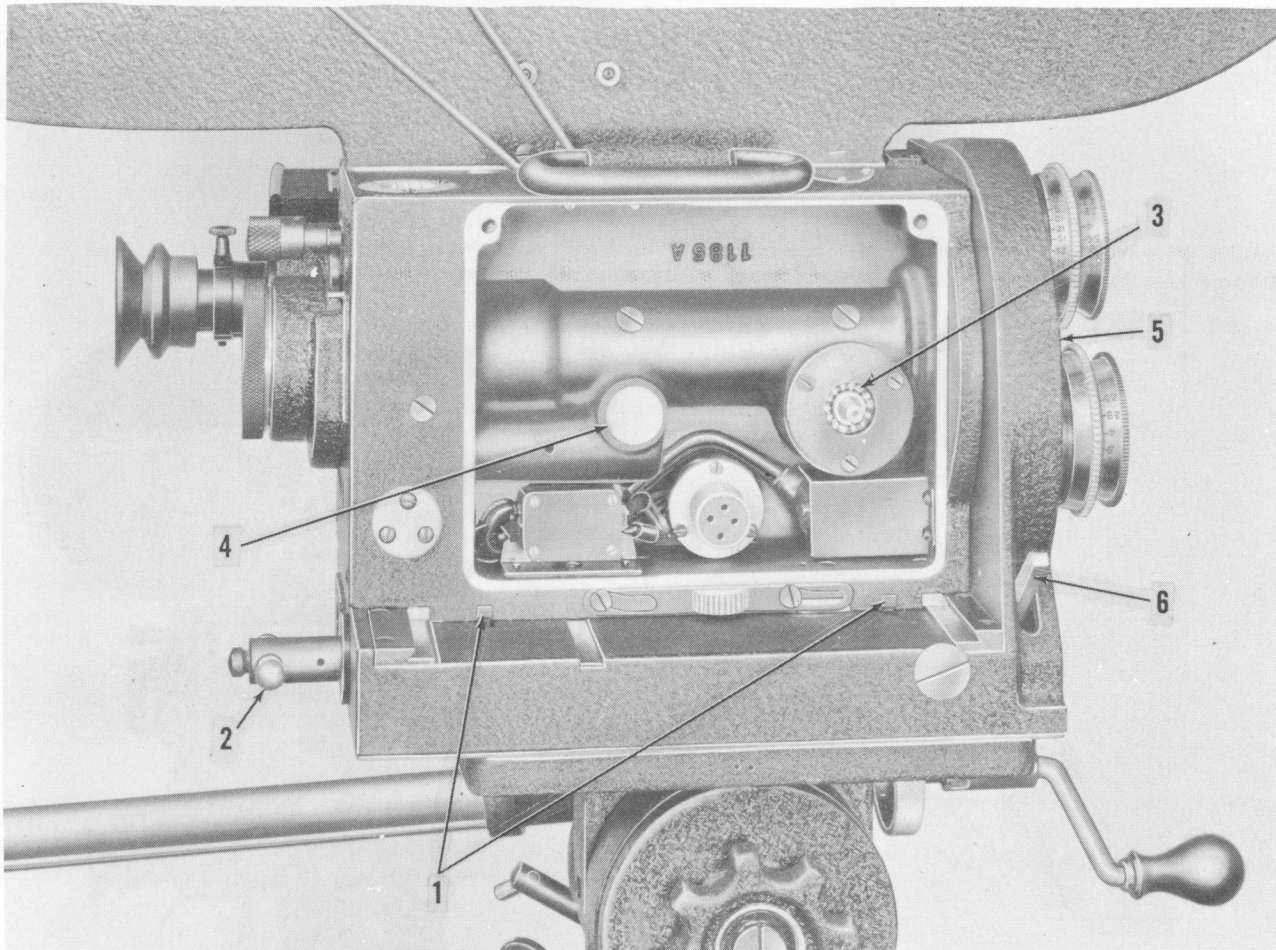

Figure 4-2. Lubrication Chart (Right Side of Camera)
c. Lubricate shift handle, movement drive-shaft bearings, turret center bearing and locating pin (figure 4-2).